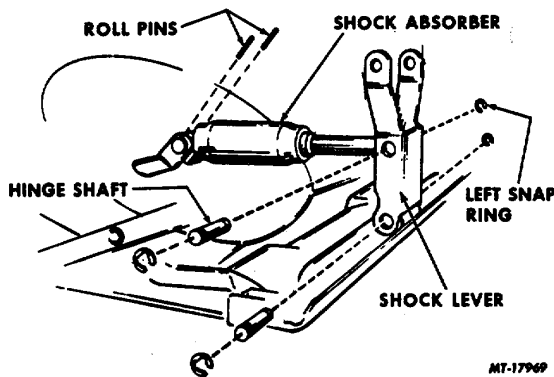

Fig. 9. Shock Absorber Removal
5. Remove left snap ring from end of hinge shaft at front of shock absorber (Fig. 9).
6. Remove hinge shaft by tapping shaft from left to right side. This will free the two washers on end of shaft. Washers are not illustrated in Fig. 9.
7. Use a small diameter punch to remove one of the roll pins from hinge shaft at rear of shock absorber, (Fig. 9).